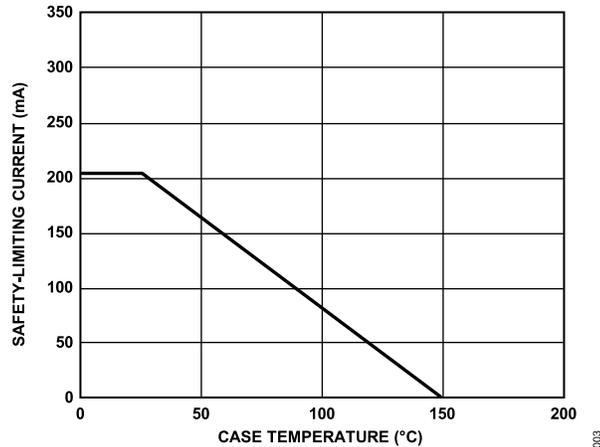

Figure 3. Thermal Derating Curve, Dependence of Safety-Limiting Values on Case Temperature, per DIN EN IEC 60747-17 (VDE 0884-17)
Safety Limiting Values	Maximum value allowed in the event of a failure (see Figure 3)
- 2 See Figure 3 for maximum rated current values for various temperatures.